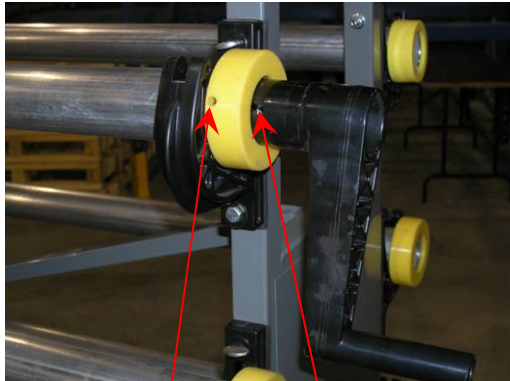

Fig 19.1
- 19.2 Line up the Pin with the slot in the manual Crank Handle and insert the Crank Handle in the end of the Cover Roll as shown on **Fig 19.1**